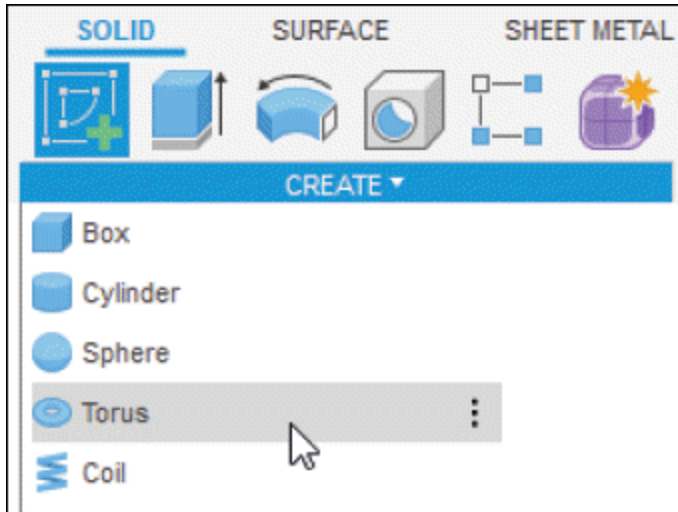

Figure-70. Torus tool
- Click on **Torus** tool in **CREATE** drop-down from **Toolbar**; refer to Figure-70. You are asked to select the plane/face for creating the center circle of torus. Select desired face/plane.